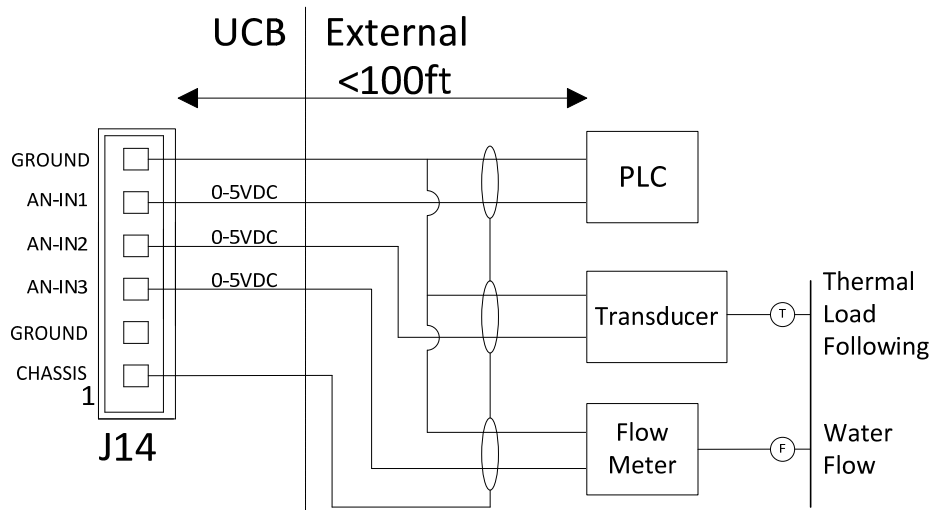
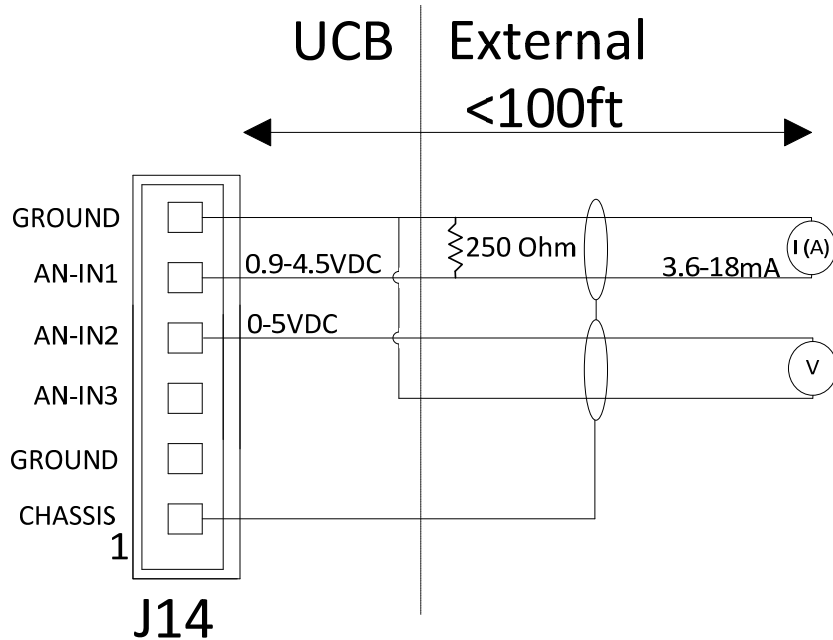

Figure 20. 0-5 VDC Analog Input
Figure 21. Analog Input for Voltage (0-5 V) and Current (4-20 mA)
Table 12 defines all connections for connector J14 and Figure 20 shows a wiring example using the 0-5 VDC analog inputs. Figure 21 shows the difference in wiring between analog inputs configured for voltage signal and current signal. Refer to the following paragraphs for details.
- **4-20 mA:** In order for the 4-20 mA input to work, a customer-supplied 250 ohm resistor must be installed. Internal software is scaled to work from 0.9 V to 4.5 V for full range operation (see Figure 21)